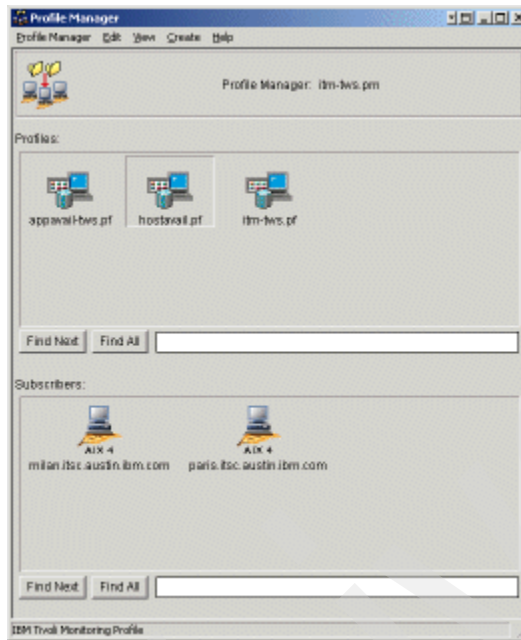

Figure 9-136 Selecting *hostavail.pf* Tivoli Monitoring profile
2. Select the hostavail.pf Tivoli Monitoring profile as shown in Figure 9-136 on page 534.